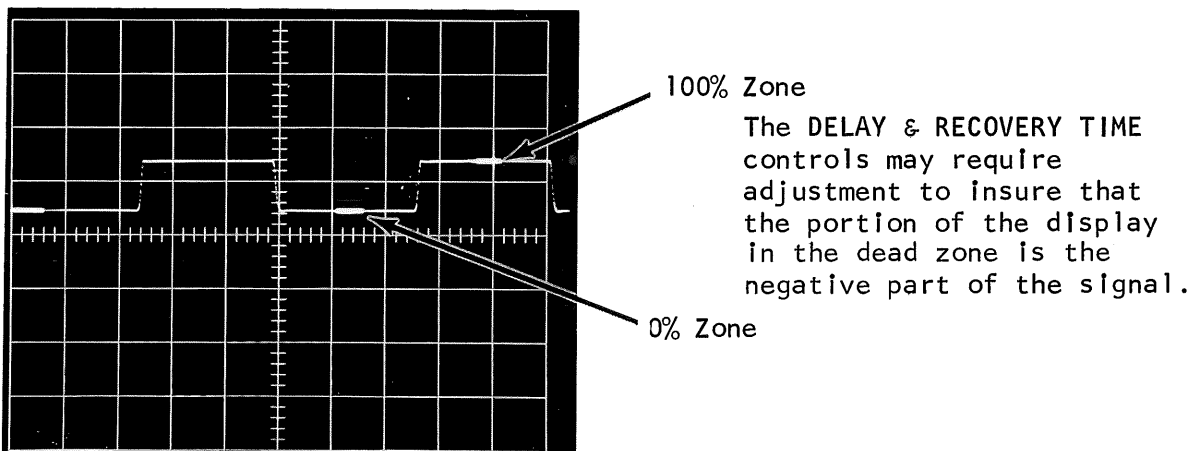

Figure 2-21
3. On the 105, adjust the output amplitude control for approximately 1 division of vertical deflection on the 567. Obtain a stable display with the TRIGGER SENSITIVITY control on the 3T77. Position the 0% and 100% zones appropriately on the waveform. See Figure 2-21.